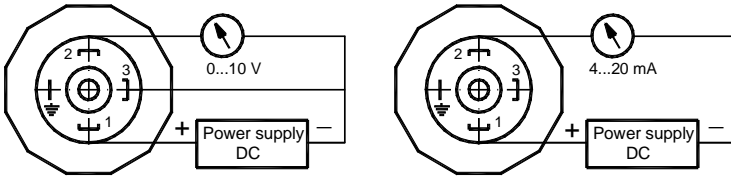
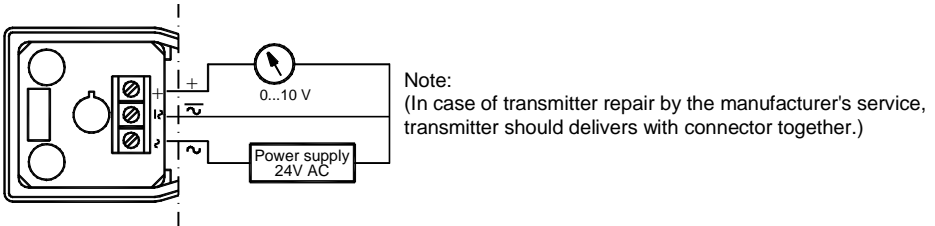

Fig.2a. Transmitter wiring diagrams for DC voltage supply.
Fig.2b. Transmitter wiring diagram for AC voltage supply.
- 5.2. Electrical connectors make in accordance with Fig. 2a for DC supply or Fig. 2b for AC supply. In environments with big electromagnetic noise line type strand or strand in shield is recommended. Isolate transmitter signal lines from power electrical supply lines or from big electrical energy receivers. The devices used together with the transmitters should be resistant to electromagnetic interference from the transmission line in accordance with compatibility requirements.